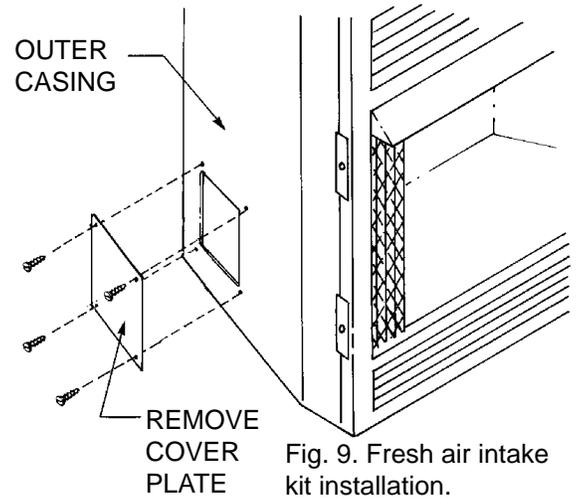

Fig. 9. Fresh air intake kit installation.
Remove cover plate and retain the four (4) screws. Install damper assembly into the hole from the outside of the fireplace. Reinstall all four (4) screws. (See Fig. 9).
Attach the cover plate behind the bottom louver with four (4) screws, provided to the support legs on the back left side of the firebox, as shown in Fig. 9. Attach the (2) screws for damper rod bracket to the bottom of the hearth pan, while holding the damper rod bracket with the flange facing the rear of the unit. Connect damper assembly to termination using 6" diameter duct. Insulated duct is recommended when ducting through a heated space.